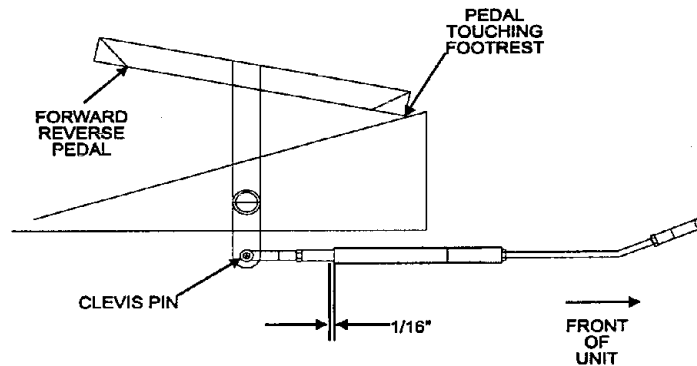

FIG. 10
- b) Check the gap between the motion override tube and the spacer. This gap should measure $1/16$ " (See Figure 10).